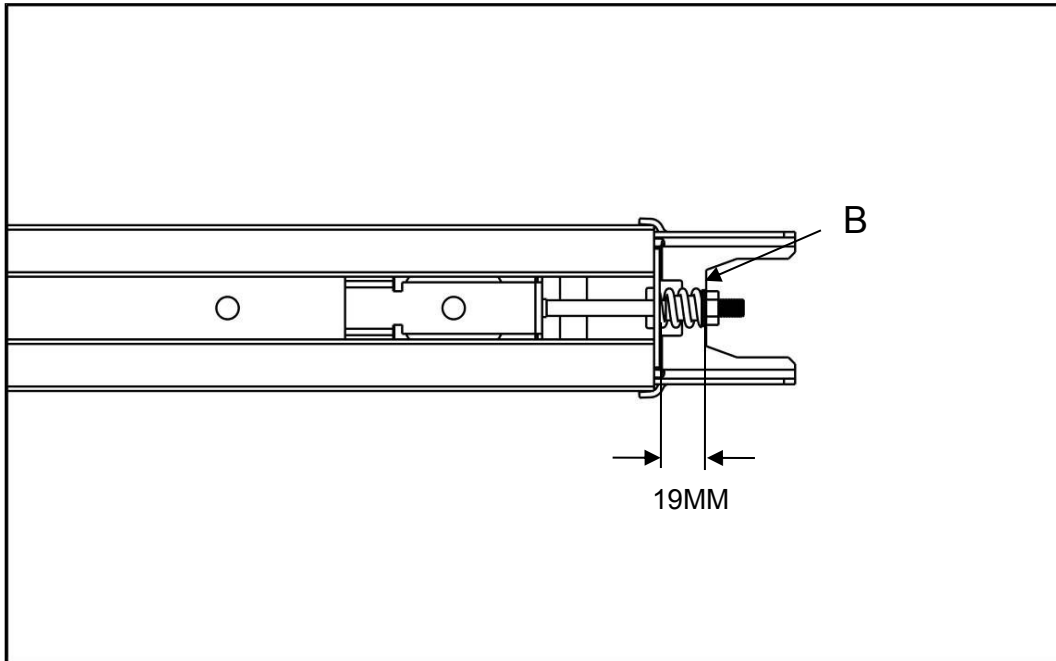

Fig. 11
6. Tight the nut to the right position as shown in Fig.11, cut the plastic cable tie on sprocket, then whole rail assembled finished.